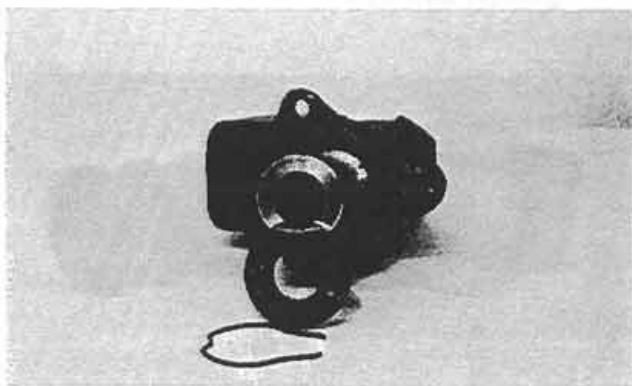

Figure 7:
2. Carefully install the spring and piston seal assembly into the cylinder bore. As the piston seal approaches the snap ring groove of the cylinder housing (Fig. 7), wobble the piston until the seal works into the bore.